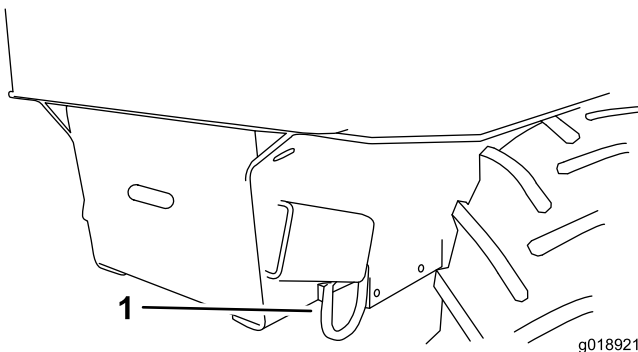

Figure 13
8. Fasten the front tie-down loops of the machine to the trailer (Figure 13).